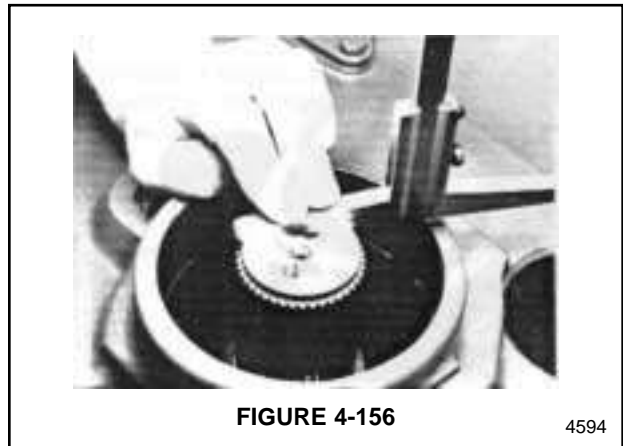

FIGURE 4-156
3. Install a snap ring on top of the bearing. Use a depth micrometer to measure from the top of the bore to the edge of the snap ring. See Figure 4-156. In the example shown, the dis-